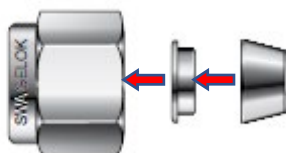

Figure 10: Orientation of Inlet Nut and Ferrules
2. Place the two PFA ferrules inside the PFA nut as shown in Figure 10.